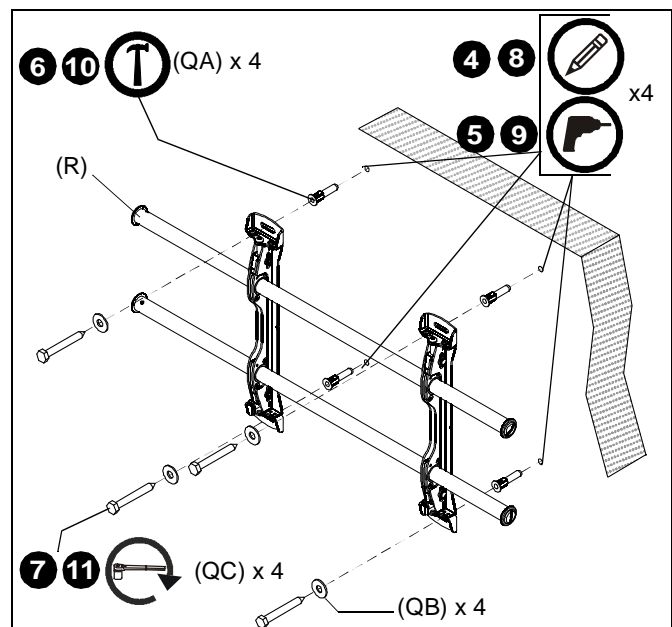

Figure 4
- Line up the notches on mount (R) with center of screen marking to determine vertical center. (See Figure 4)
- Measure up 7-1/2" (190.5mm) from the center point to mark location of the upper mounting slots. (See Figure 4)
- Using a level, mark the wall through both upper mounting slots. (See Figure 4)
- Install an anchor (QA) into each upper pilot hole using a hammer, making sure that the anchor is flush with the wall.
- Use two 5/16 x 2-1/2" lag bolts (QC) and two 5/16" flat washers (QB) to attach top of mount (R) to anchors in wall.
- Mark the attachment points for the lower mounting slots. (See Figure 4)
- Drill one pilot hole at each marking for lower mounting holes. (See Figure 4)
- Install an anchor (QA) into each lower pilot hole using a hammer. (See Figure 4)
- Use two 5/16 x 2-1/2" lag bolts (QC) and two 5/16" flat washers (QB) to attach the mount to the wall through the lower mounting holes. (See Figure 4)